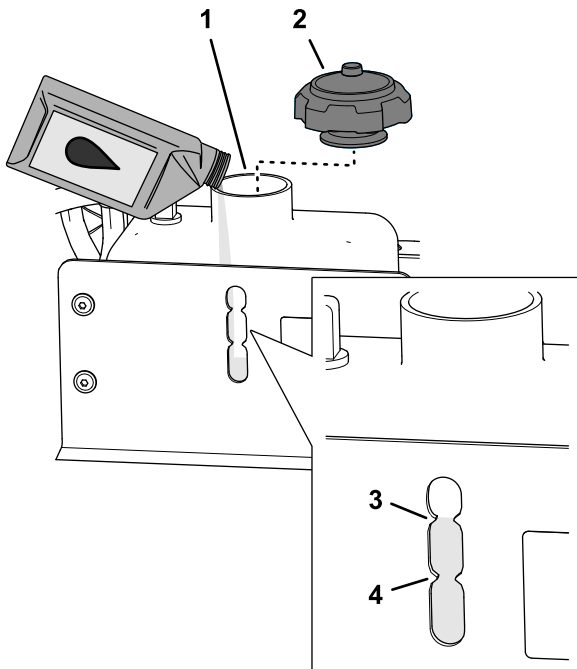

Figure 99
3. Check the hydraulic fluid level in the tank (Figure 99).
- A. Remove the cap (Figure 99).
- B. Add the specified hydraulic fluid until it is level with the full mark of the fluid-level window (Figure 99); refer to Hydraulic Fluid Specification \(page 71\).
- C. Install the cap (Figure 99).